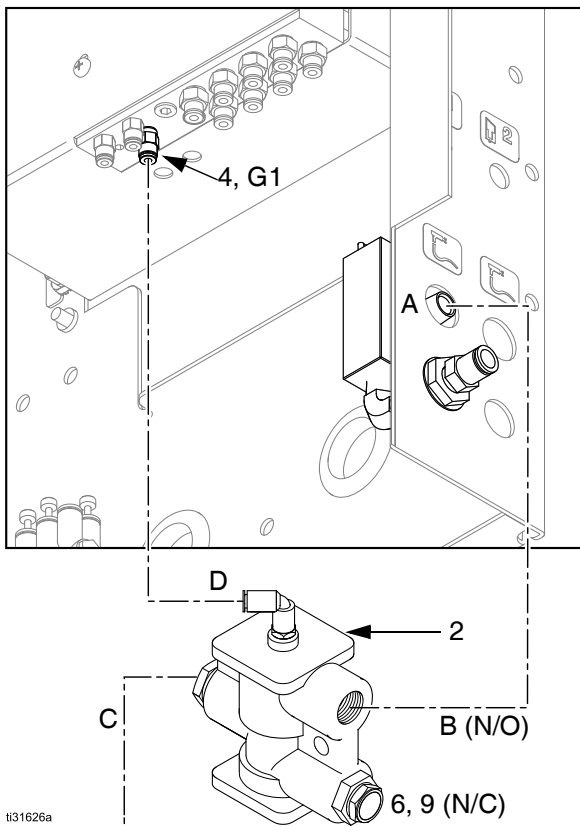

FIG. 3: Air Line Connections, ProMix 2KS (One-gun system pneumatic diagram)
2. Install bushing (6) and muffler (9) in the lower port (N/C-Normally Closed). (See FIG. 3 for steps 2-5.)
3. Connect atomizing air line from AFS (A) to upper port (B; N/O-Normally Open).
4. Connect an air line from solenoid fitting (4, G1) to pilot port (D).
5. Connect an air line from the outlet port (C) to the gun air inlet.